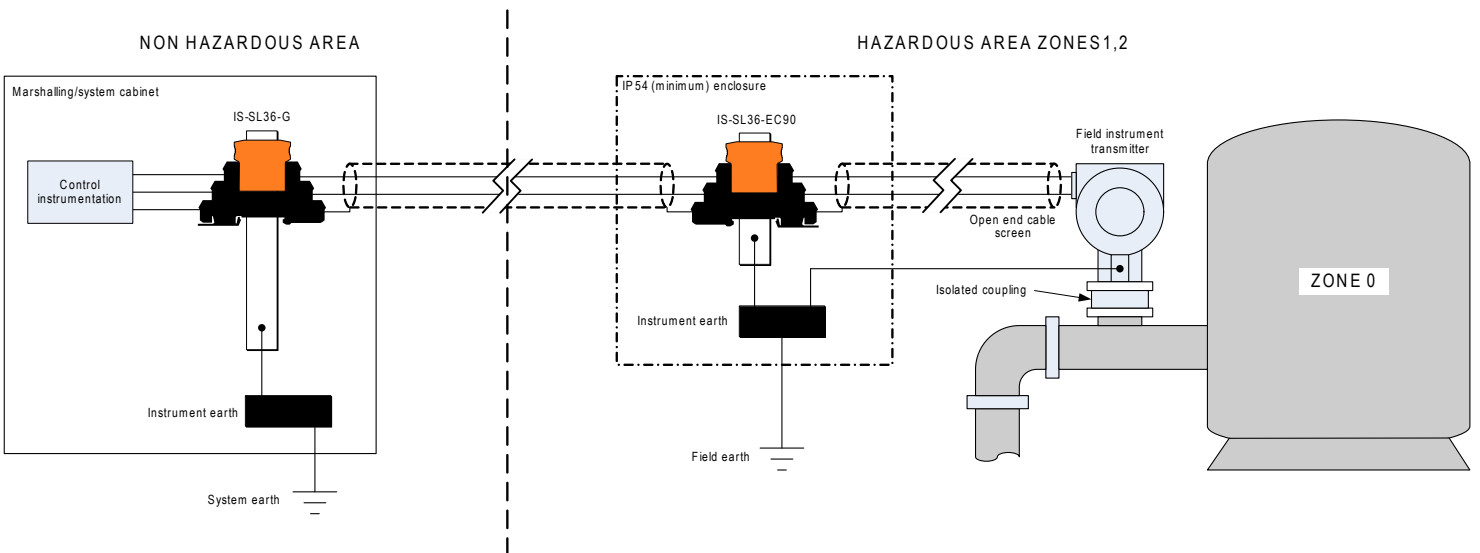

Figure 7: Typical hazardous area installation where field instrument body is isolated from pipework.
5.3 Figure 7 shows a typical hazardous area installation where the body of the field instrument is isolated from the pipework. In this case the Novaris slimline signal line protector and the field instrument body must be earthed at a common point, typically an earth bar.